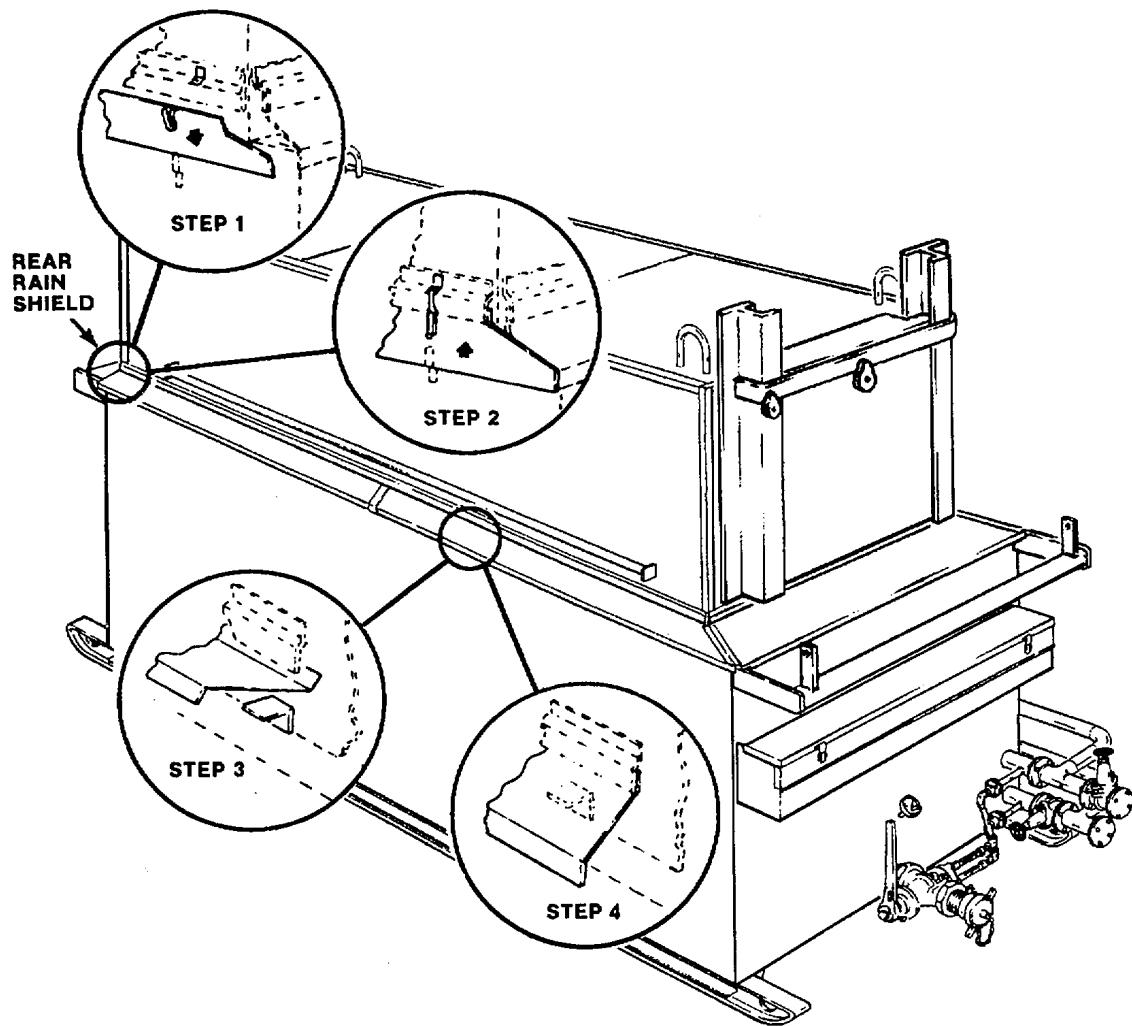

Figure 2-2. Installing Rain Shields.
b. Install the six-piece rain shield around base of tunnel as shown in figure 2-2. The rear rain shield must be installed first, then the side rain shields, working from the rear forward, with the front rain shield (3, Figure 2-3) installed last.